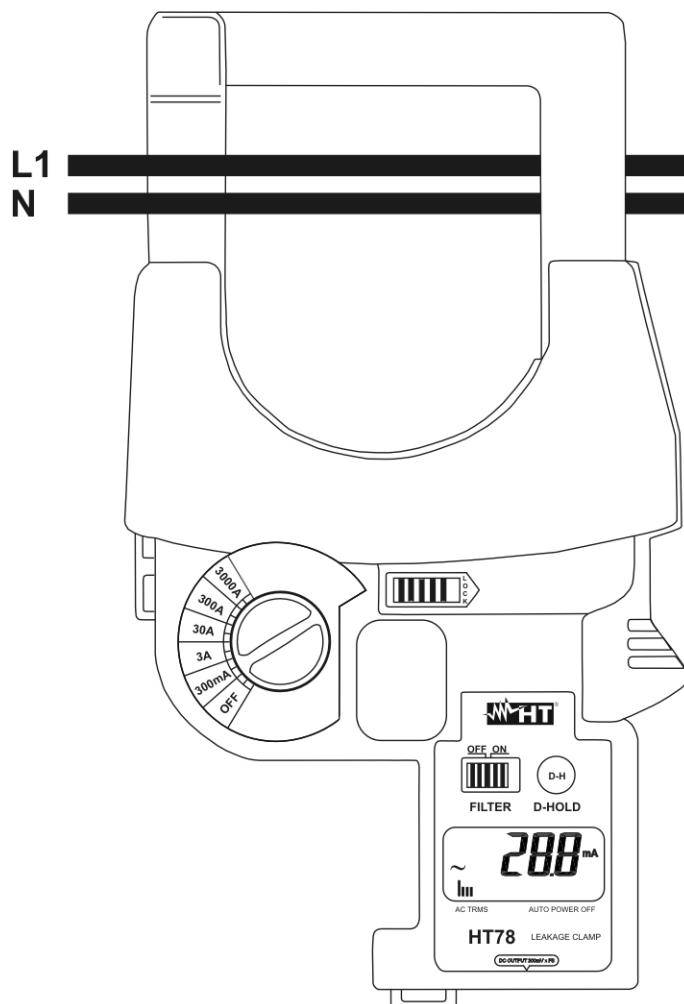

Fig. 4: Taking leakage current measurement on Single phase systems
- The cables L1 and N if use the **Differential** method as shown in Fig. 4 obtaining the result as addition of instantaneous values of the currents flowing in the wires